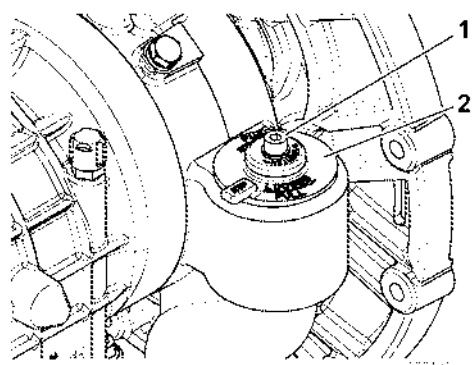

Figure 11
1. Using the 6 mm hex key, loosen the capscrew (1, Figure 11) of the filter cartridge cover assembly (2, Figure 11).